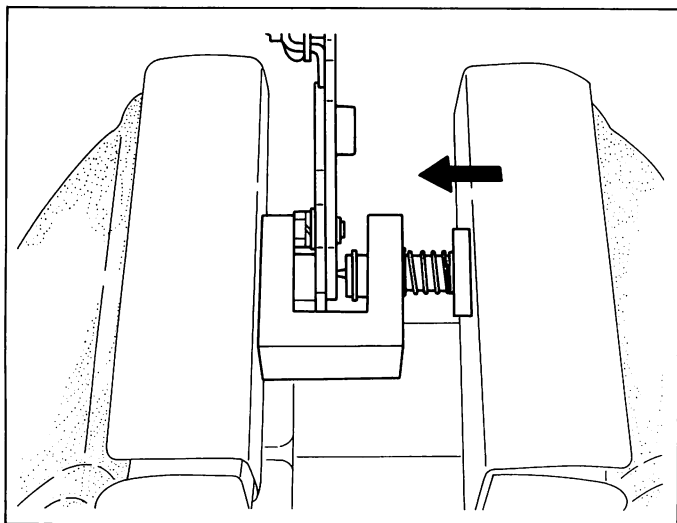

Fig. 127 Calking the control lever assembly
–3 After positioning the holder assembly's guide pin ( $\phi 3$  mm) in the control lever top's hole ( $\phi 3.6$  mm), tighten the vise to calk the control lever assembly and to therefore hold the control lever base and top together as a unit. (Fig. 127)